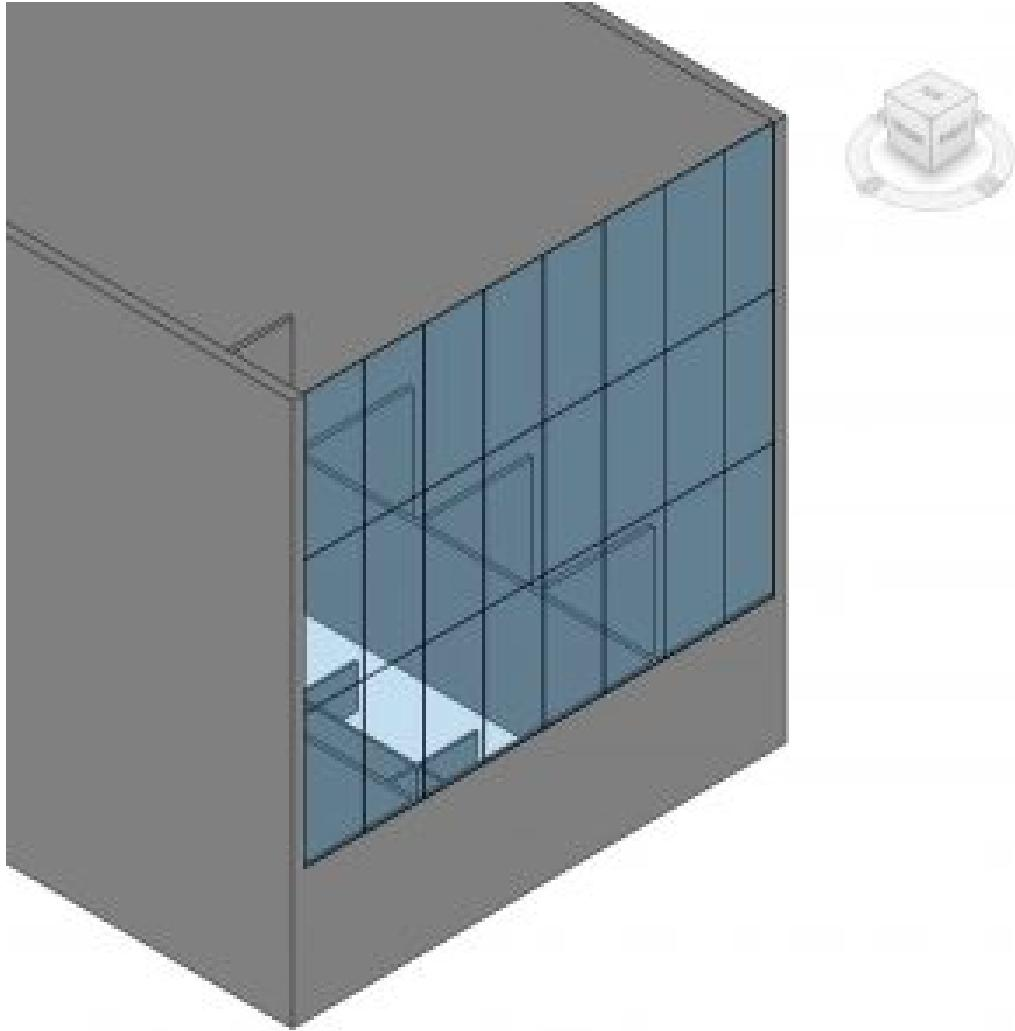

Figure 2.30 Curtain Wall 1 with added grid lines
9. Hover the cursor over the curtain walls top edge and click to place vertical grid lines every 5 feet as shown in Figure 2.30
10. Hover the cursor over the curtain walls side edge and click to place horizontal grid lines every 11 feet as shown in Figure 2.30